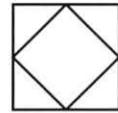

Figure 32. Instrument Tag
3. Determine the type of device indicated by the tag in figure 32.